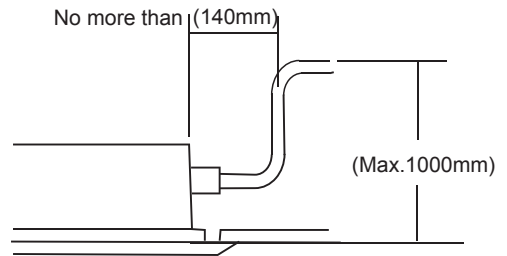

Fig. 6-4
- In case the drainpipe outlet is higher than pumping connective pipe of the main body, the drainpipe must be arranged upwards vertically by using connective assembly of the water outlet for vertical bending, and the height of the drainpipe shall set to the defrosting pan surface no more than 1000mm, otherwise, too much backflow while shutdown would leads to overflow (Refer to Fig. 6-4).